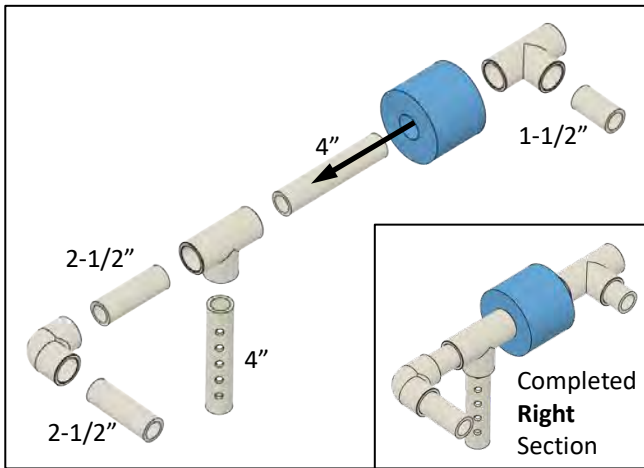
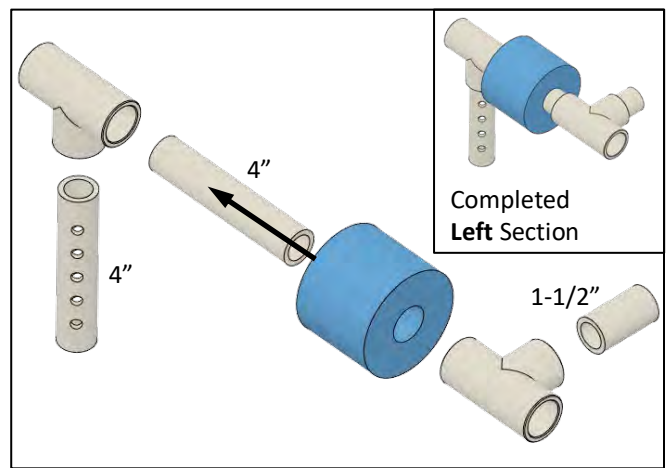

Figure 29
Figure 30
- Assemble one right section (Figure 29) and one left section (Figure 30). Insert the 4" long pipes into the 2" long floatation pieces before connecting the elbows. Position the thruster mounting pipes with the holes facing as shown.